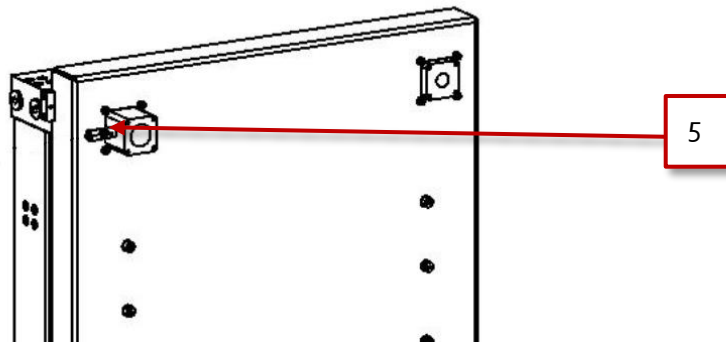

Figure 80 Open bleed valve
5. Open the bleed valve on the side of the generator, see Figure 80. The generator contains about 3 liters.